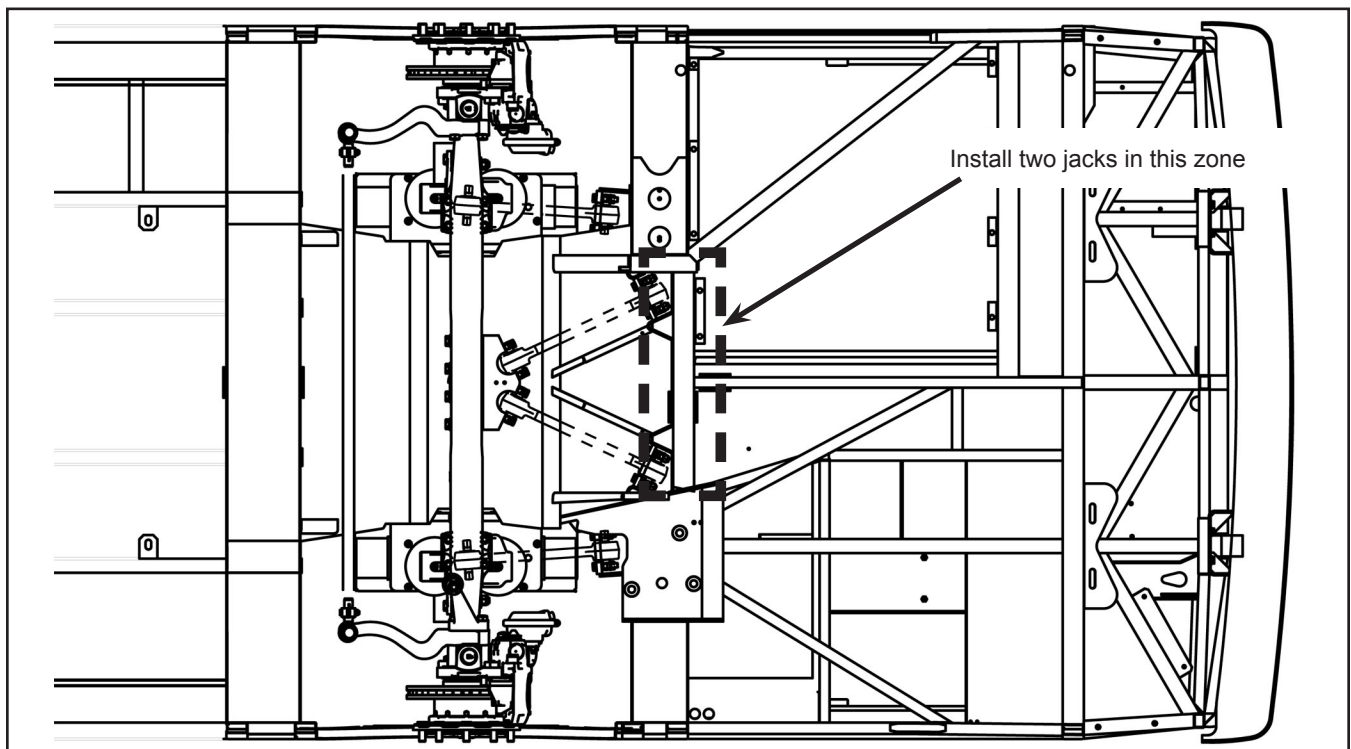

Figure 1 - Jack Locations at the front-end of the vehicle
1.2. Install safety jacks under the vehicle. See Figure 1 for jack locations at the front of the vehicle.